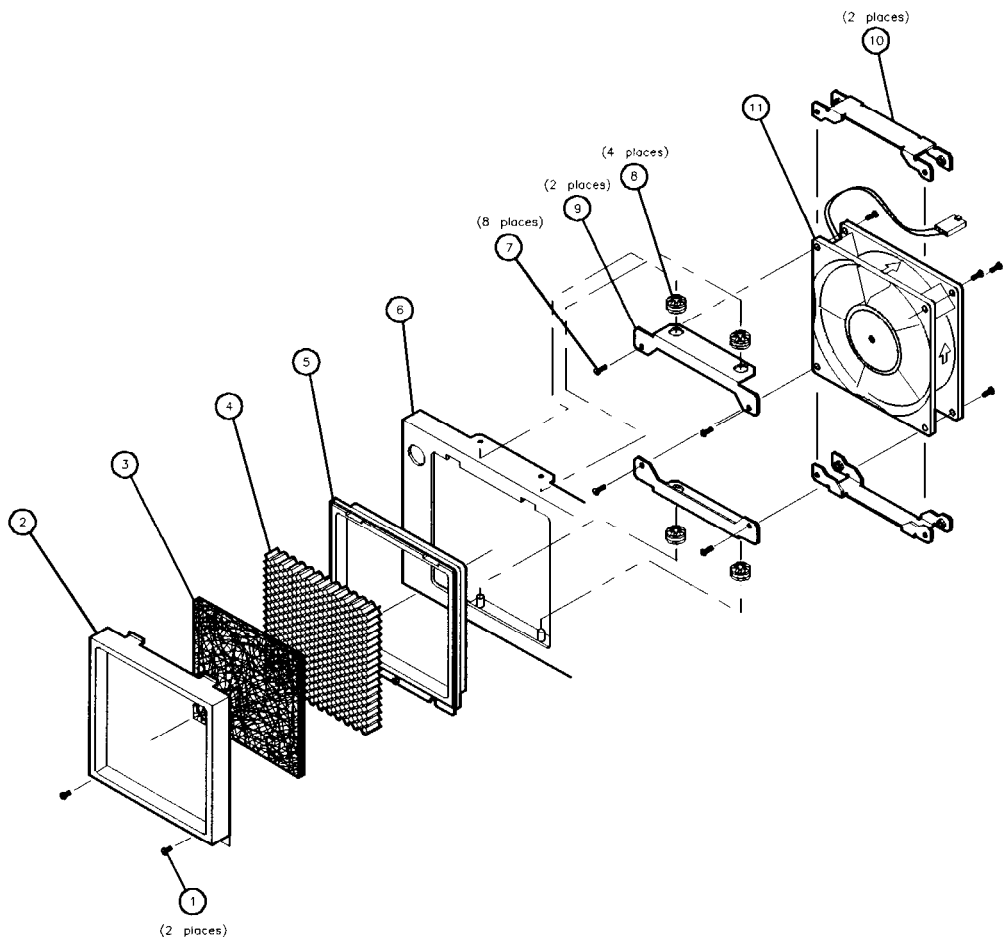

Figure 7-8. B1 Rear Panel Fan Assembly
1. Remove both screws (item 1) from the fan shroud. Refer to Figure 7-8.
2. Remove items 2 through 5.
3. Remove the four screws (item 7) from the rear panel/fan brackets.
6. Remove the four screws (item 7) attaching the two brackets to the fan and remove the brackets (item 10).